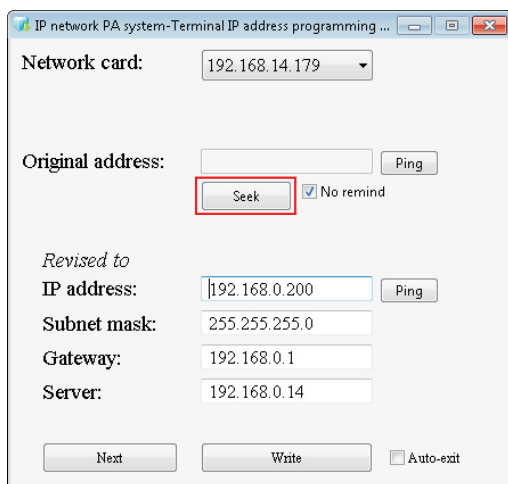
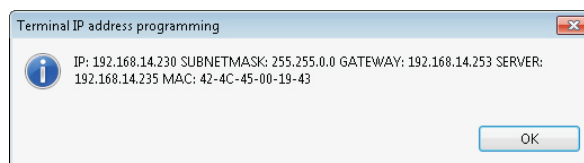

Figure 1
Figure 2
- 1) Use network cable connect the terminal LAN IN with computer internet access or interchanger connection. Open the computer "IP network broadcasting system software" folder, select run "to run the server" program. Then choose run "configuration IP address" program, IN the pop-up dialog window, click the "query" button (figure 1), can query the terminal current IP address (figure 2), as shown in the figure below: